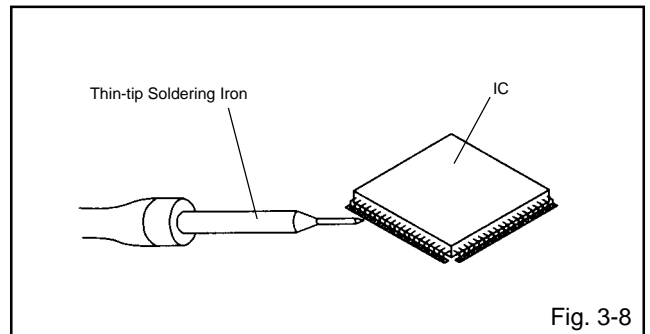

Fig. 3-8
4. When bridge-soldering between terminals and/or the soldering amount are not enough, resolder using a Thin-tip Soldering Iron. (Refer to Fig. 3-8.)